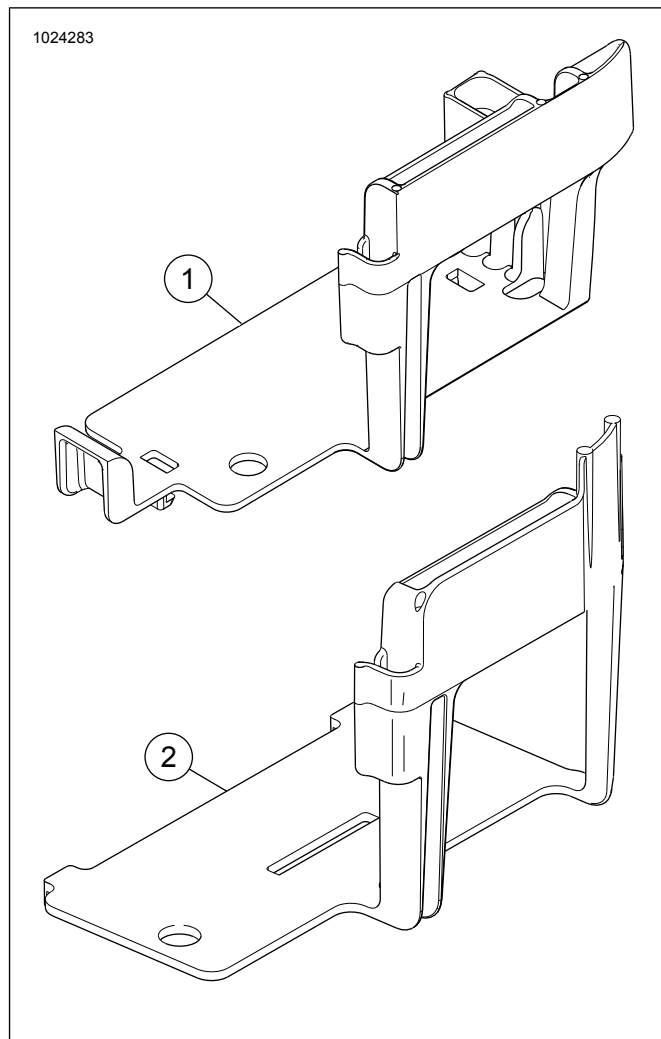

Figure 27. Non-Modified Softail Battery Caddy
4. See Figure 27. Remove battery caddy. See service manual.